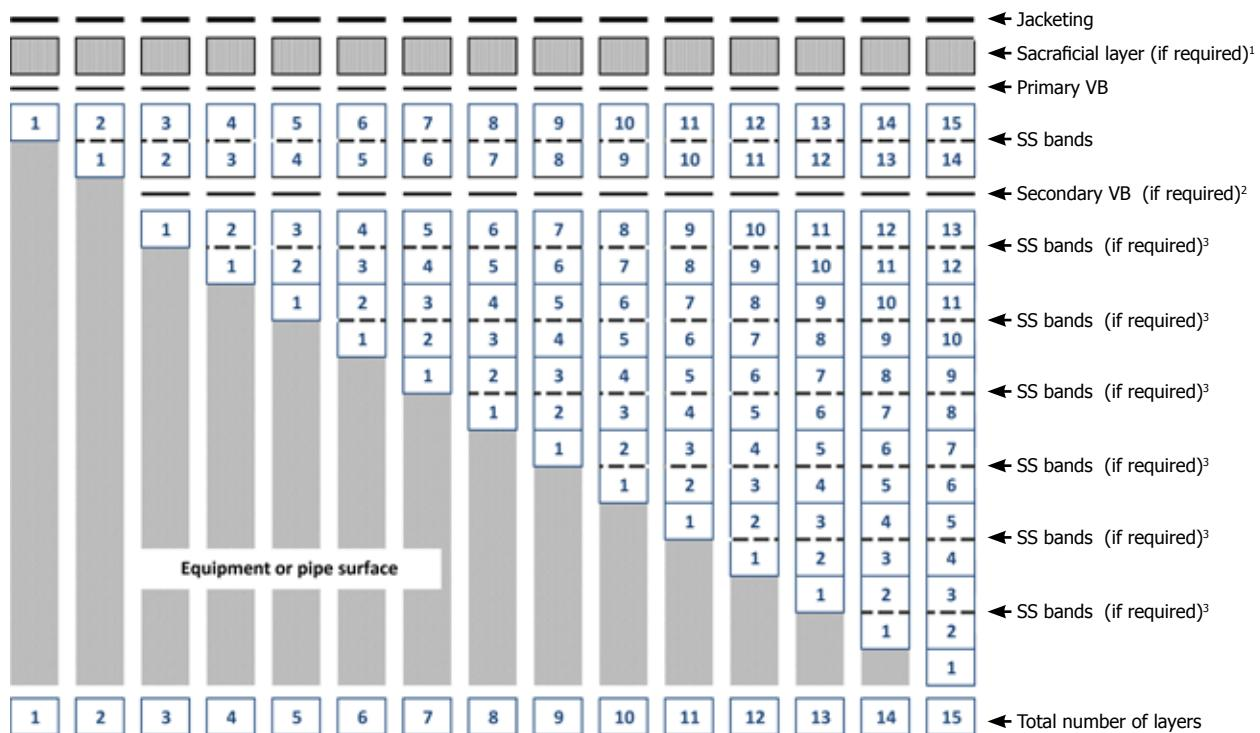

Figure 2:
- Where the insulation is to serve as passive fire protection, install additional intermediate banding over every second layer as shown in Figure 2. Space the bands 450 mm (18 in) apart.